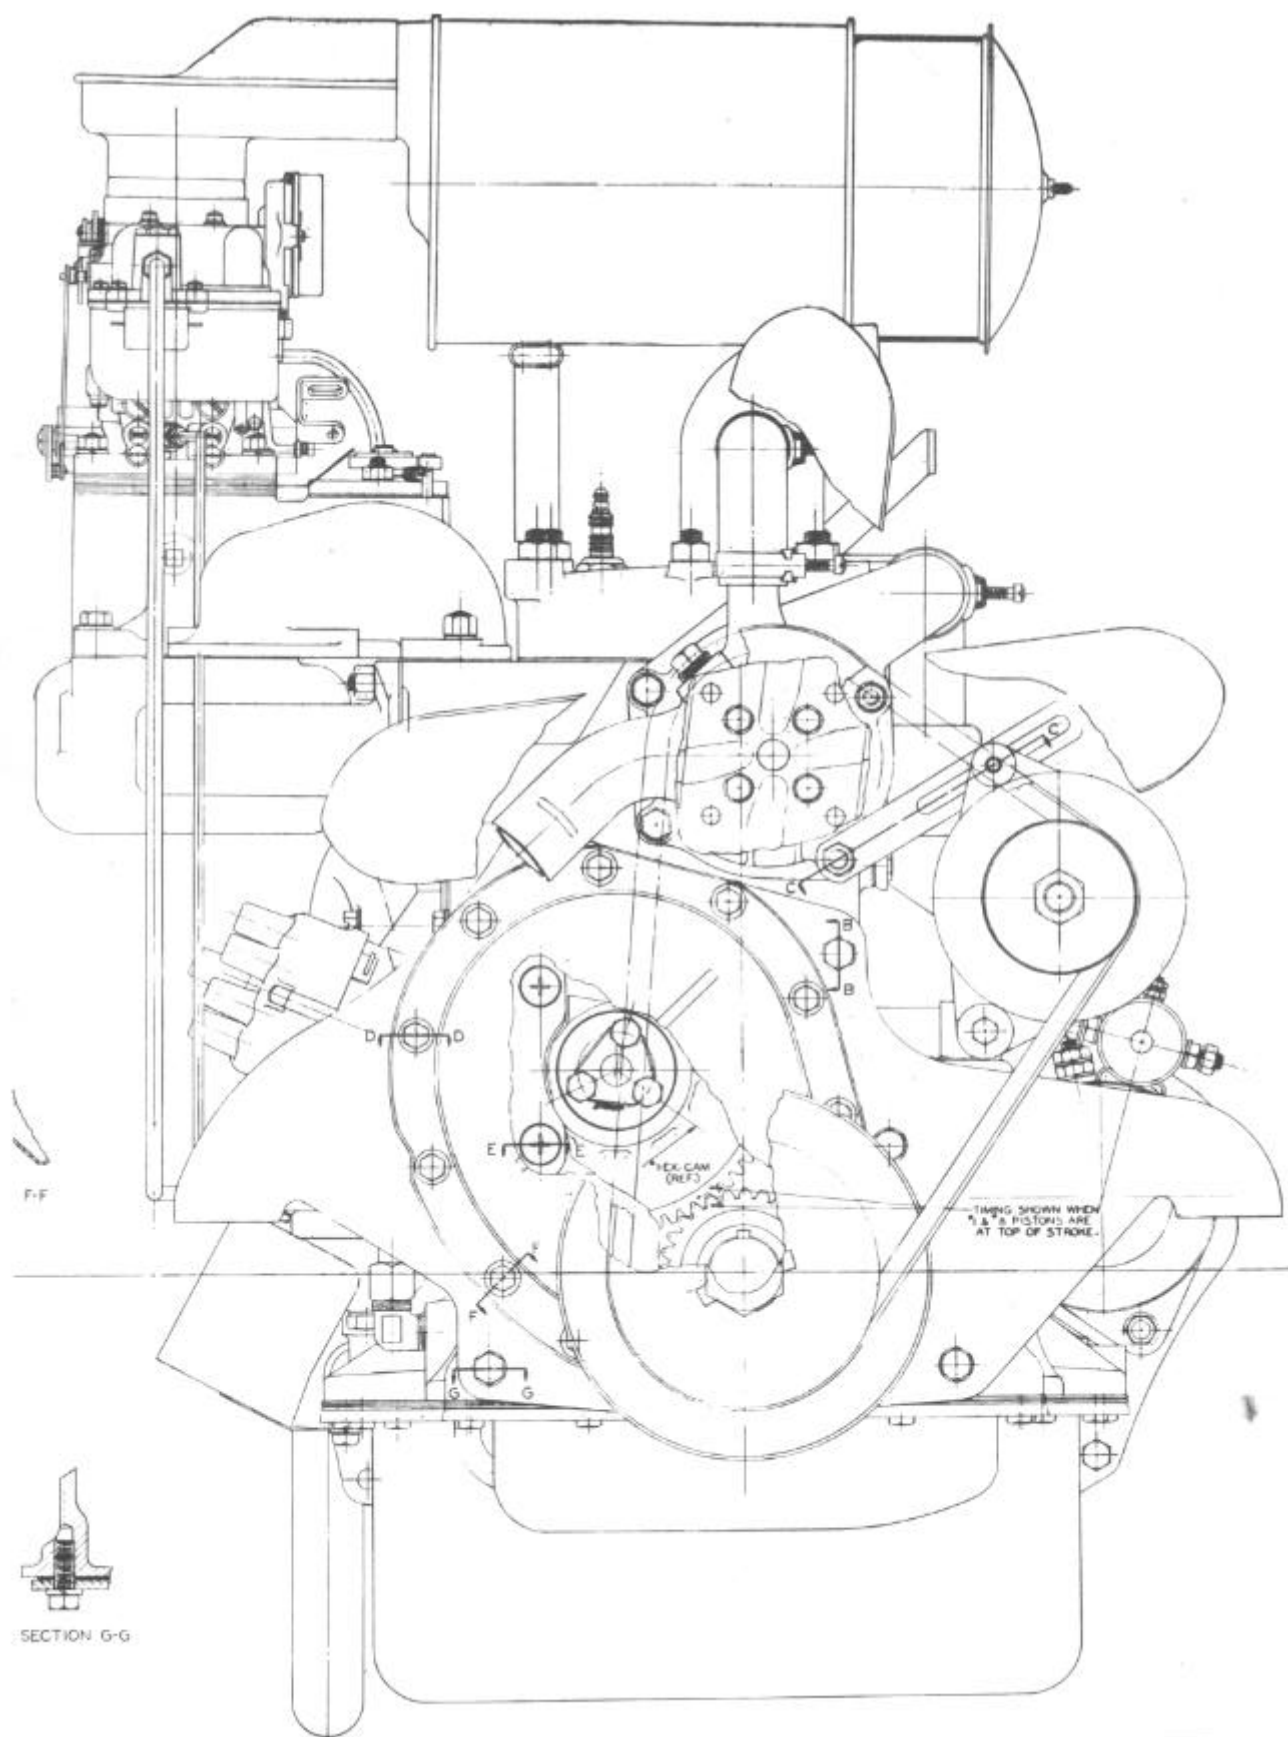

FIGURE 40
2. Install camshaft gear, meshing the punch marked tooth of the crankshaft gear between the two punch marked teeth of the camshaft gear, Figure 40; install camshaft screws and lock wire. Gear backlash should be .002 to .004.